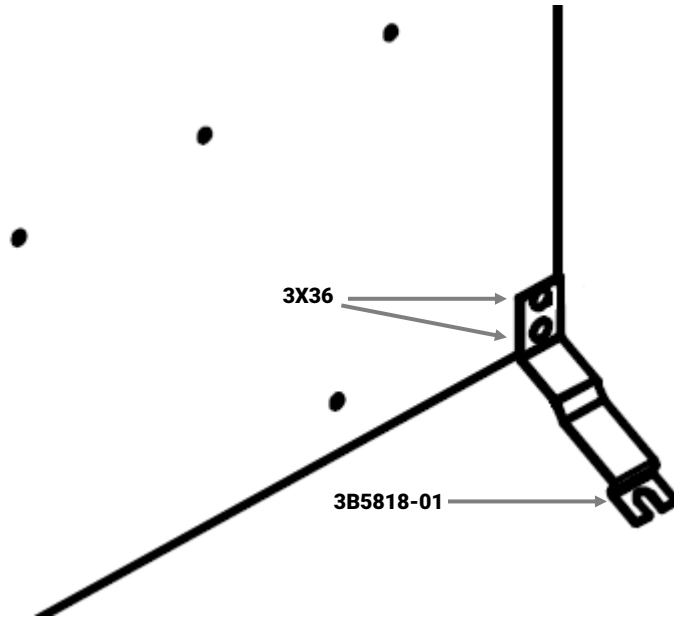

Fig. 2
- D. Loosen the rear seat bolts at the base of the 2nd row seats and insert the forked end of the (3B5818-01) lower barrier brackets. Align the holes in the rear of the brackets with each side of the barrier, and fasten with two (3X36) carriage bolts and two (3X-16Z) whiz nuts at each end (See Fig 2).